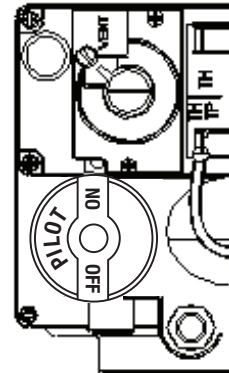

Fig. 4
7. If the pilot light stays on after releasing the knob, turn the knob to the "ON" position, shown in Fig. 4